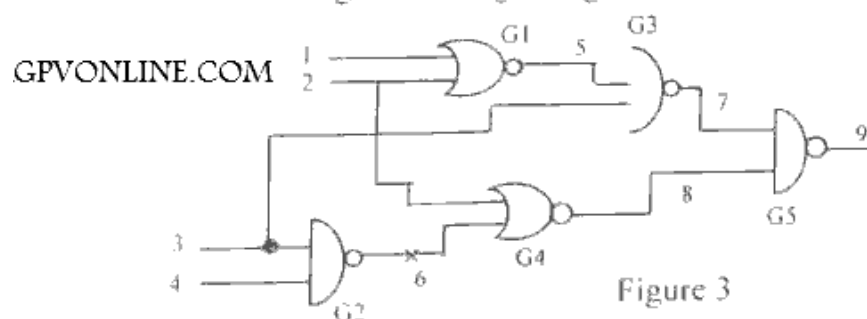

Figure 3
- b) Find a test for detecting a fault 6 s-a-0 in the circuit shown in figure 3 using D-algorithm.